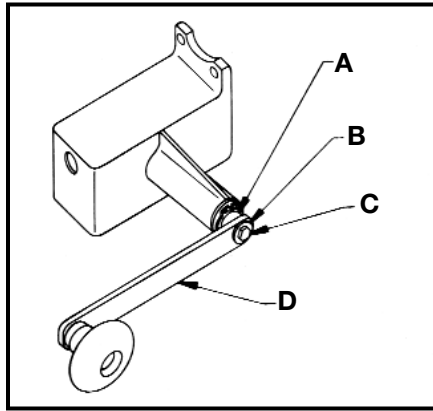

Fig. 2
Remove bolt and washer (B and C) Fig. 2. Place crank handle (D) onto crank shaft (A) with wooden knob facing outward and “D”-shaped hole in handle aligned with flat on shaft. Place bolt (C) through washer (B) and thread into shaft (A). Tighten securely.